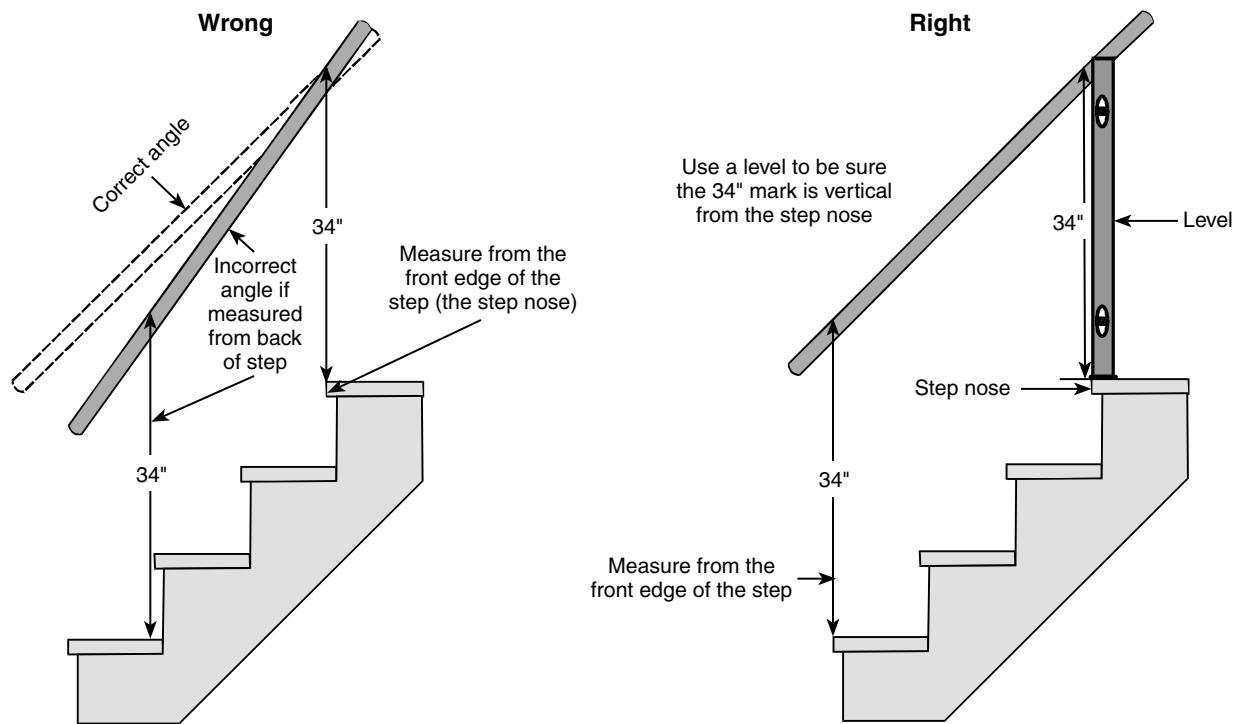

Figure 16-3
- Stretch your tape along the level, keeping the level straight. Mark on the wall 34 inches from the bottom of the level which, again, should be at the front edge of the step. Look at Figure 16-3 for a visual. Incidentally, whenever I have to make a temporary mark, I stick masking tape on the wall and mark on that. Then I don't mark up the wall itself.